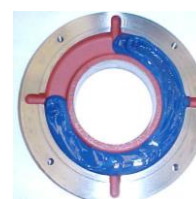

Figure 7.4: Outer bearing cap
- Figure 7.4) and lubricate the rolling bearing with enough grease before assembling it;